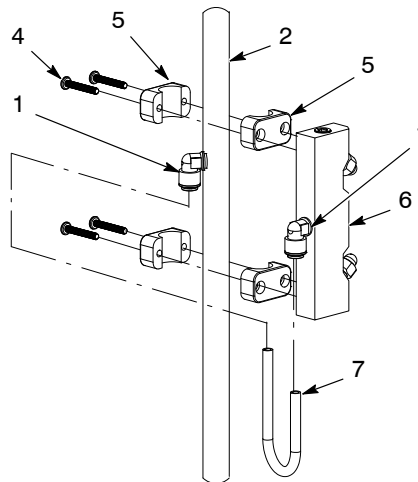

Figure 4 Gun Blow Off Kit Installation
2. See Figure 4. Use the clamps (5) and the M6 screws (4) to secure the manifold (6) to the header pipe assembly (2). Leave the screws slightly loose for alignment procedure in the following section.
3. Install the tubing (7) from the fitting (1) on the manifold to the fitting (1) on the header pipe assembly. Repeat procedure for the second manifold.